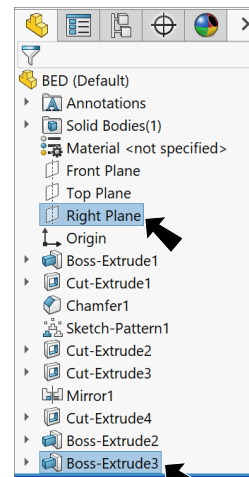

Fig. 60
Step 1. **Ctrl click Right Plane**  and **Boss-Extrude3** to select plane and last feature, **Fig. 60**.